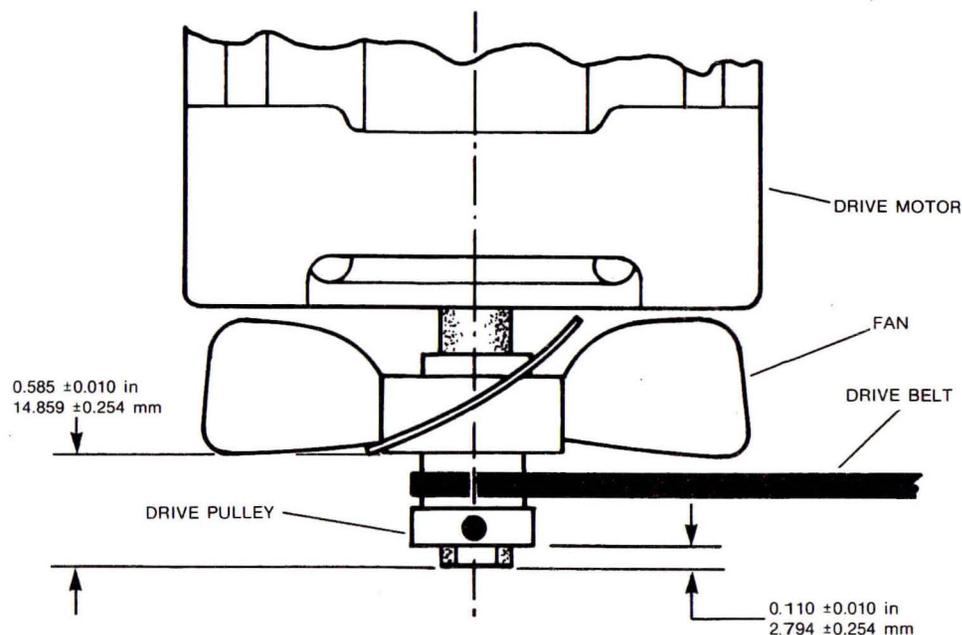

FIGURE 4-8. DRIVE PULLEY AND FAN INSTALLATION SPECIFICATIONS
2. Adjust installation of pulley to conform to the specifications shown in Figure 4-8.
The Fan Assembly is part of the drive motor assembly, used for cooling the motor. Mounting location is shown in Figure 4-8.
Press fan onto drive motor shaft per specifications shown in Figure 4-8. Apply force at inner hub only.